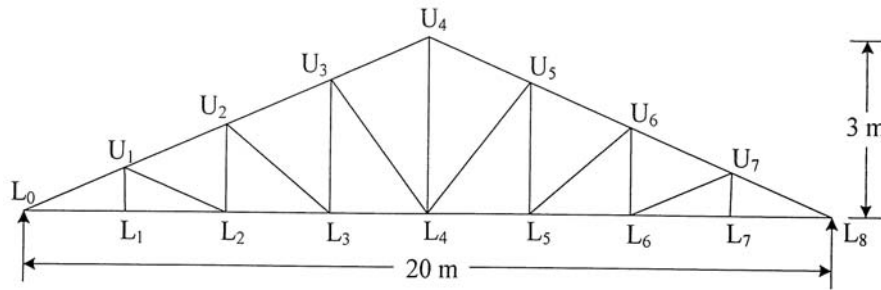

Fig. 7
7. a) A truss shown in Fig. 7 is used for an industrial building situated in Pune. The truss is covered with A C sheet . Calculate the panel point dead, live and wind load. Design the members  $L_0L_1$ ,  $U_1L_1$  and  $L_0U_1$  assuming  $k_1 = 1$ ,  $k_2 = 0.98$  and  $k_3 = 1$  and  $(c_{pe} - c_{pi}) = \pm 0.8$ ,  $f_y = 250$  MPa. Draw the design sketches. **25**